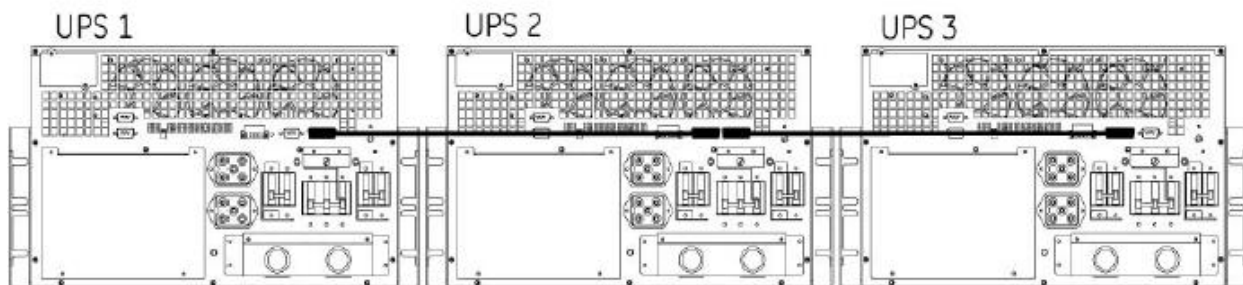

FIG 62 – 10KVA UPS CONNECTING 3 PARALLEL UNITS
3. One cable connects two UPS is parallel. To connect a third UPS into the parallel system, repeat the process as above (FIG 62).